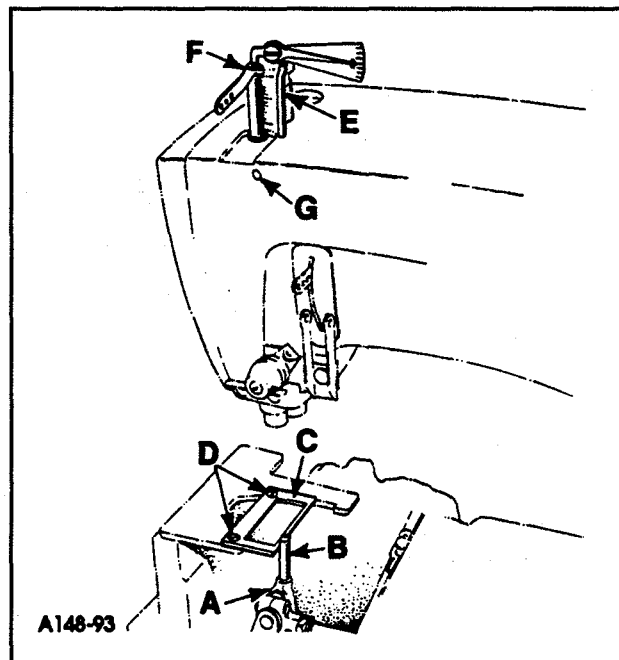

FIG. 5
With looper rocker (A, Fig. 5) at extreme right end of travel, insert pin (B) furnished with gauge in looper hole of looper rocker. Assemble gauge plate (C) to throat plate seat using throat plate mounting screws (D). Insert shank of indicator (E) into hole used for needle thread take-up wire in top of machine bed. Turn handwheel in operating direction until pin contacts edge of gauge plate. Adjust pointer on left end of indicator until it rests on top of needle bar (F) and its pointer on the right end aligns with the marking "0", then lock indicator in position using the set screw (G) in front of machine bed for securing the take-up wire. Turn handwheel in reverse direction until pin again contacts edge of gauge plate, then note reading on indicator. If pointer aligns with "0" on scale, looper and needle motions are synchronized. A variation of one graduation is permissible. If the reading is above "0" on scale, the looper drive lever rocker shaft must be moved to the front. If the reading is below "0" on the scale, the shaft must be moved to the rear.